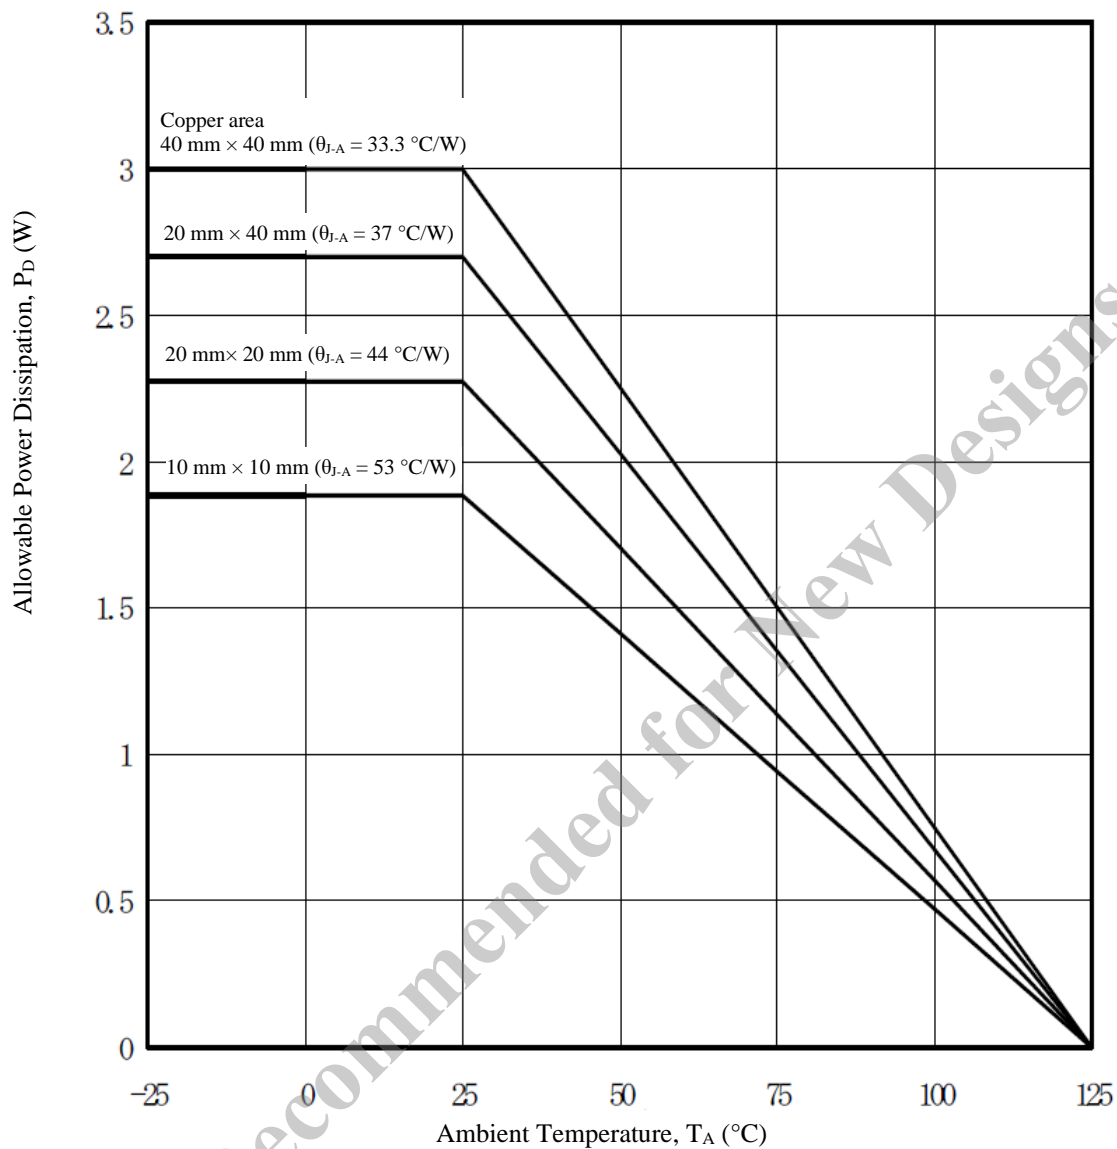

Figure 13-13. Thermal Derating
Figure 13-13 shows the thermal derating of the IC. When using the IC, ensure a sufficient margin.
- (3) Determine the copper area by confirming the intersection of ambient temperature and power dissipation by the thermal derating characteristics shown in Figure 13-13.